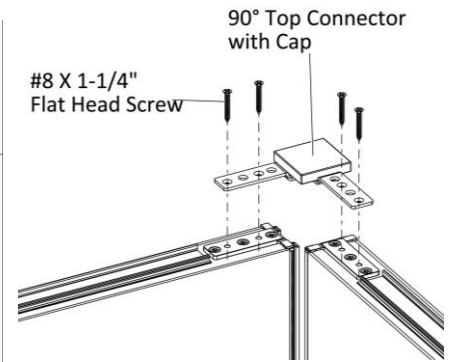

Figure 8
- 14.** Position the 90-degree top connector with a cap on the top corner of the panel which is to be connected, (Figure 8).